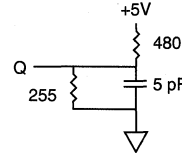

Fig. 2 OUTPUT LOAD EQUIVALENT
- ^tHZCE, ^tHZOE and ^tHZWE are specified with C_L = 5pF as in Fig. 2. Transition is measured ±500mV from steady state voltage.